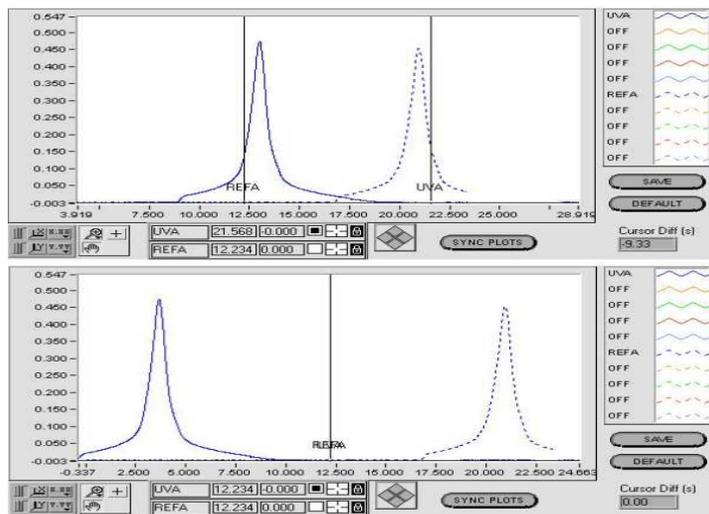

Figure 16. Separating Two Traces
Figure 16 shows the two plots being separated. Place the UV(A) cursor to the right of the Sample trace (solid line) and the REF(A) cursor to the left of the Reference trace (dashed line).